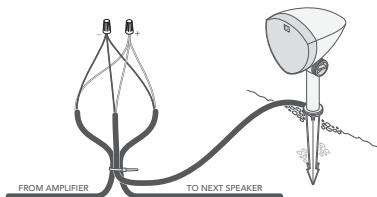

Figure 7
8. Cut the two wires for the left or right speaker (see the tables below) and strip 3/4" of insulation on the exposed ends of the burial wires, then strip 3/4" insulation from the ends of the corresponding speaker's pigtail (see Figure 7).
9. Create a loop of approximately 10", and use a wire tie to hold the wire loop and speaker pigtail in place to provide strain relief (see Figure 7).